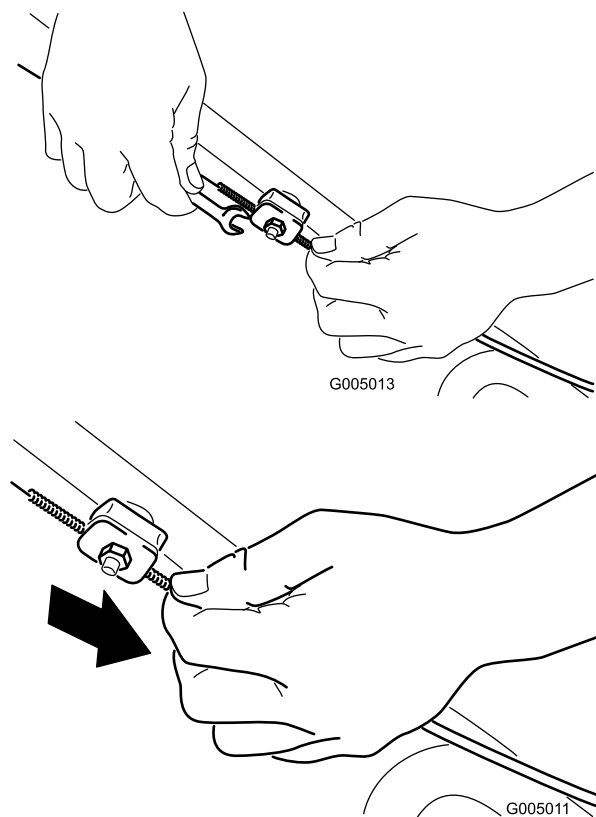

Figure 27
1. Loosen the cable support nut (Figure 27).
2. Pull down the cable jacket (toward the mower) until there is no slack in the cable (Figure 27).